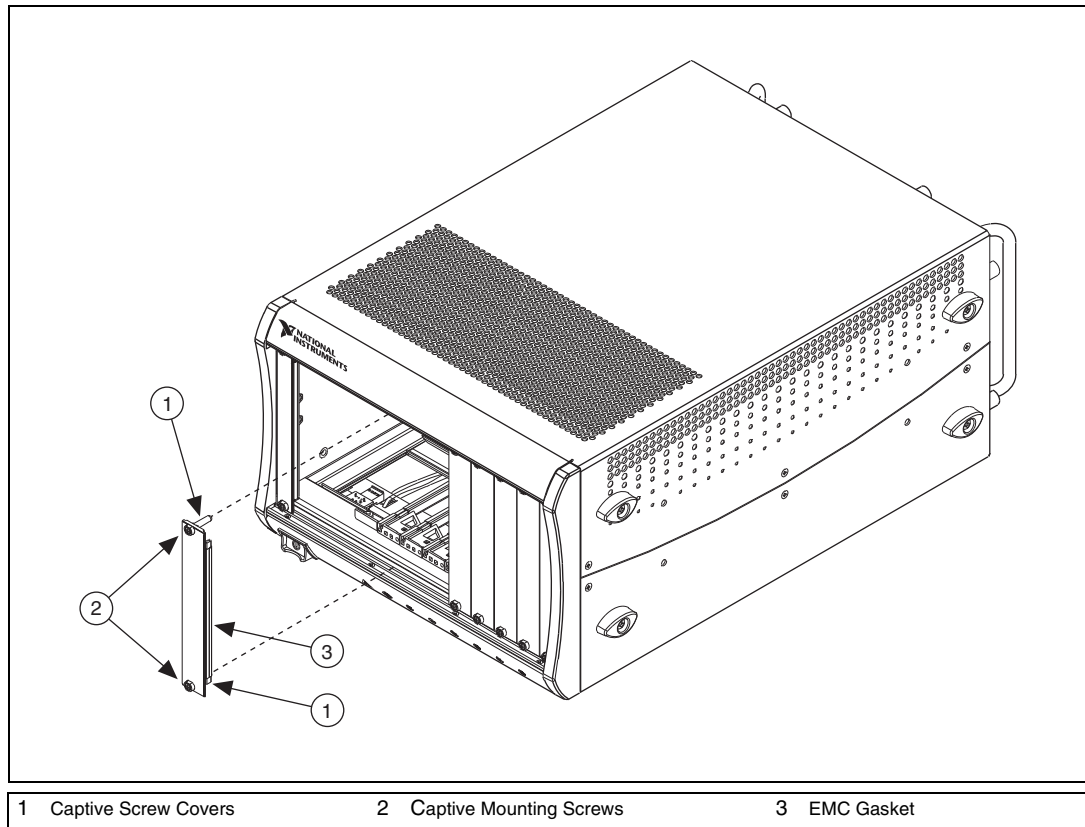

Figure 41. PXI EMC Filler Panels and Chassis
2. Install the PXI EMC filler panels by securing the captive mounting screws to the chassis, as shown in Figure 41. Make sure that the EMC gasket is on the right side of the PXI EMC filler panel.